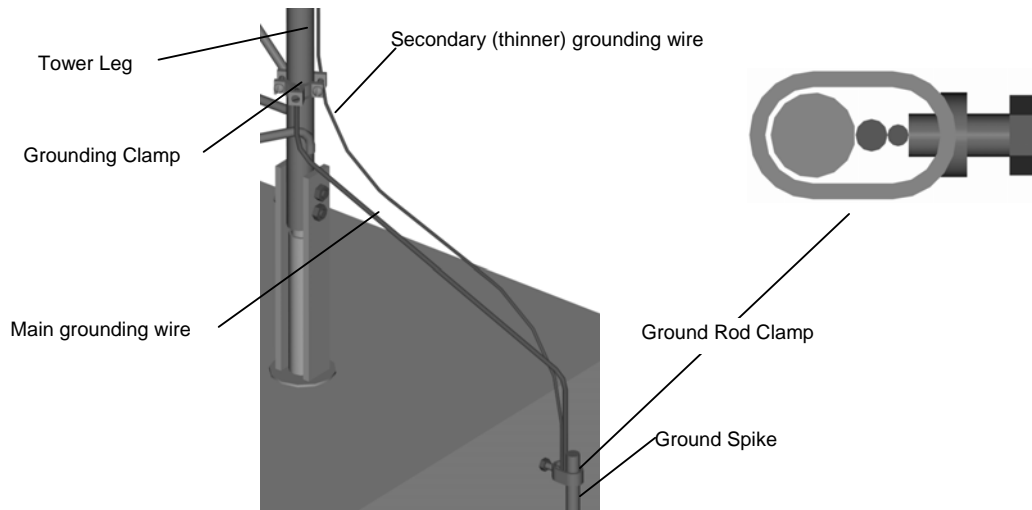

Figure 2-12 Grounding the Datalogger and the Tower
4. Connect the thicker grounding cable to the tower using the clamp provided (the same type used to clamp the lightning spike to the top of the tower mast). See Figure 2-12, below.
5. Connect the thinner grounding wire to the ground point on the underside of the enclosure and tie it to the tower to reach the ground, also as shown in Figure 2-12.
6. Connect *both* grounding cables to the exposed ground spike using the brass grounding-bond clamp provided. If you had to install the spikes separately, because of ground conditions, take the cable to the nearest spike. Try to keep the length of wires used to a minimum, without coiling the wires. See Figure 2-12.